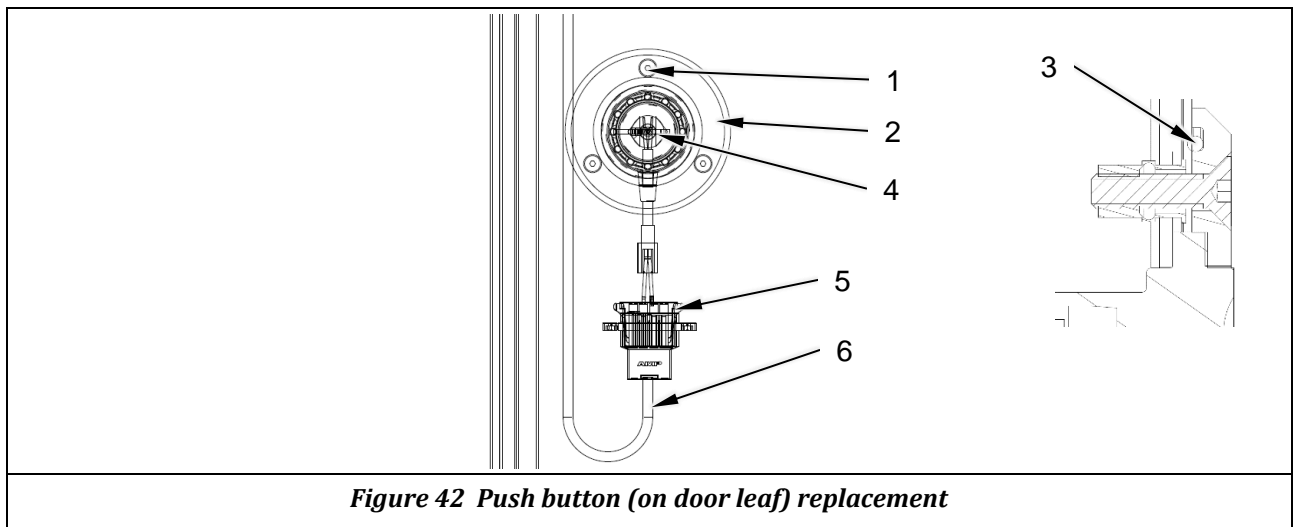

Figure 42 Push button (on door leaf) replacement
- 1) Loosen the fixing screw (*item 1, Figure 42*) and remove the cover (*item 2, Figure 42*) and O-ring (*item 3, Figure 42*)
- 2) Take the push button (*item 4, Figure 42*) out of the door leaf chamber, Mind that the wiring should be protected from the damage of sharp edge
- 3) Unplug the connector (*item 5, Figure 42*) from door leaf wiring (*item 6, Figure 42*)